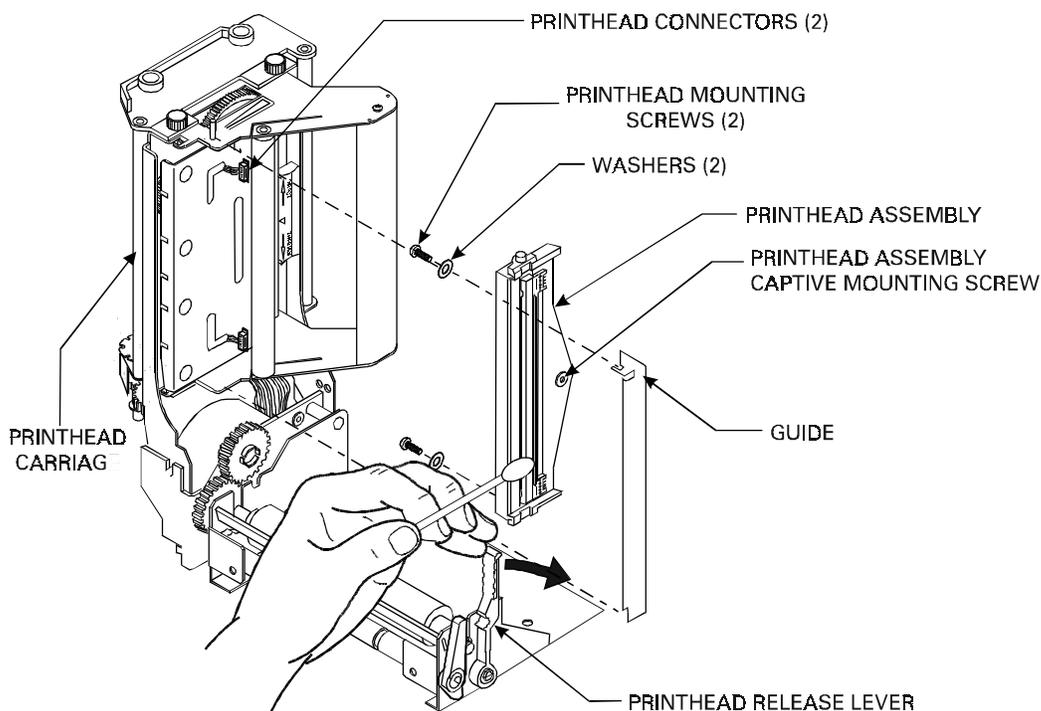

Figure 15. Removal of the Printhead Cable and Screws
4. Carefully unplug the Printhead Connectors from the back of the Printhead (see Figure 15).
5. Loosen the captive Printhead screw that secures the Printhead to the Printhead Assembly (see Figure 15).
1. Secure the Printhead Assembly to the Printhead Carriage by replacing the two phillips head mounting screws (see Figure 15).
2. Position the Printhead Assembly on the Printhead bracket and tighten the captive Printhead screw (see Figure 15).
3. Connect the Printhead Connectors to the new Printhead (see Figure 15).